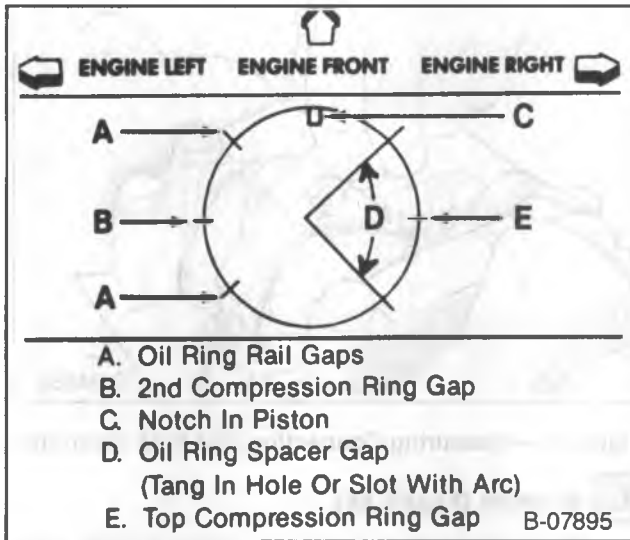
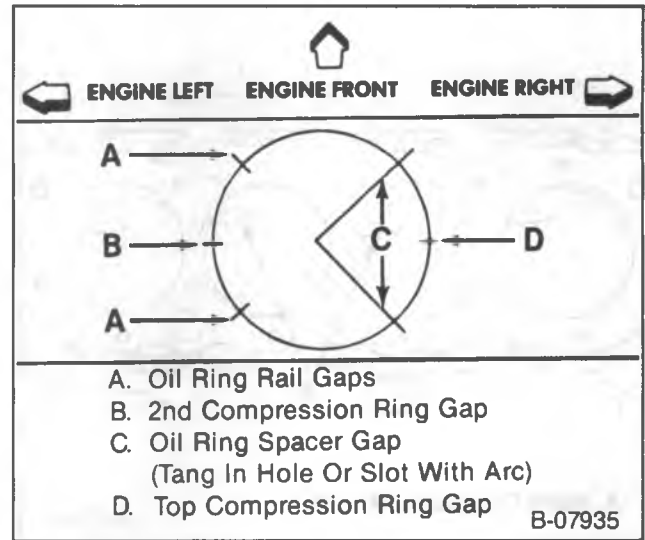

Figure 62—Piston Ring End Gap Location (5.0L and 5.7L Engines)
Figure 63—Piston Ring End Gap Location (7.4L Engines)
Install or Connect (Figures 62 through 65)
- Locate the piston ring end gaps as shown in figure 62 (5.0 L and 5.7 L engines) or figure 63 (7.4 L engines).
- On 5.0 L and 5.7 L engines, the notch in the piston crown (figure 62) must face the front of the engine.